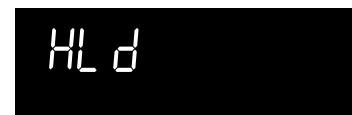

Fig. 4
- "HLd" for hold will appear in the display (Fig. 4).